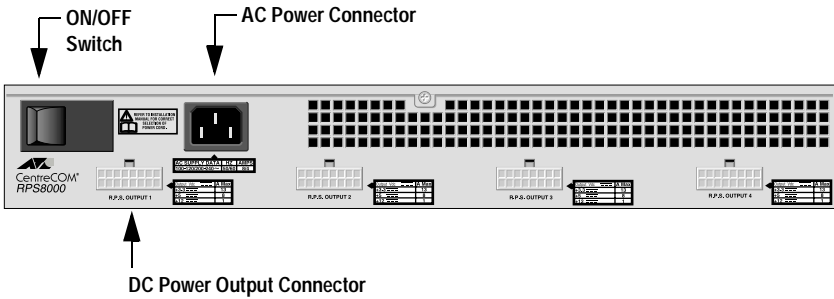

Figure 4 Back Panel of the AT-RPS8000 Unit
- Attach the provided DC power cord to the DC output connector on the back panel of the AT-RPS8000 unit, directly behind the pre-installed AT-PWR8000. (Refer to Figure 4 for the DC output connector.)
- Plug the AC power cord for the AT-RPS8000 into the AC connector on the back panel of the unit. (Refer to Figure 4 for the AC connector.)
8. Turn on the AT-RPS8000 using the switch on the back panel of the unit. (Refer to Figure 4 for the ON/OFF switch.)